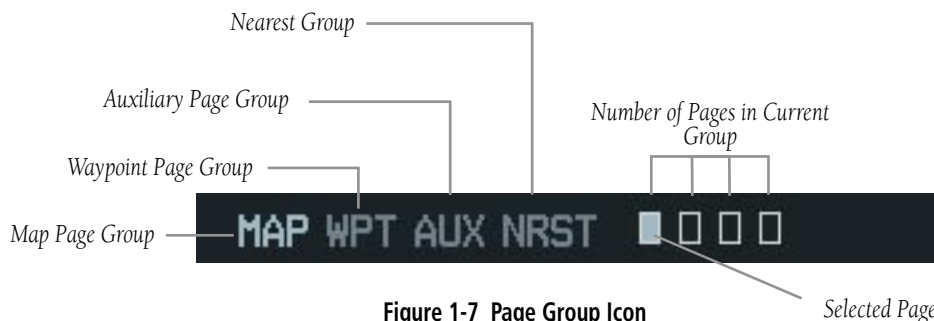

Figure 1-7 Page Group Icon
- 2) Turn the small **FMS** Knob to select pages within the group. See Figure 1-7.